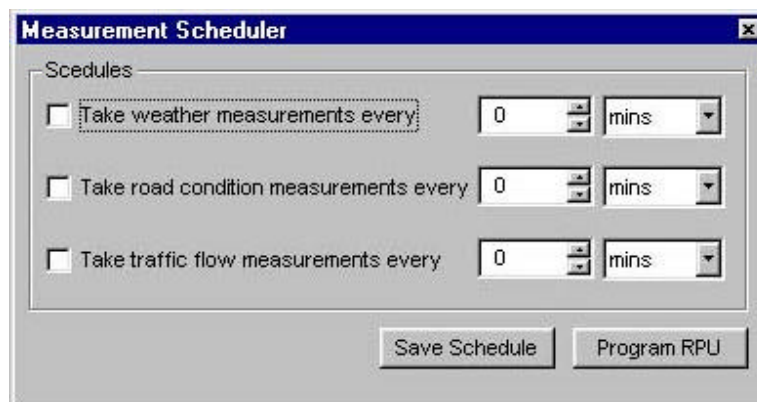

Figure 3.21 Measurement Scheduler
1. Select the “Step” (1 thru 10) to set up or edit. All the step information is shown in the “Sequencer Summary( refer to Fig.3.21).
This feature provides the operator with the ability to schedule when weather is to be taken by a particular RPU. The measurements are weather, road conditions and traffic flow. (Refer to figure 3.21)